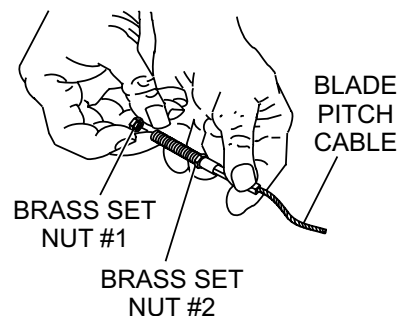

Figure 6. Blade Pitch Cable
2. Remove brass set nut #1 from the blade pitch cable end as shown in Figure 6.
3. Thread brass set nut #2 (Figure 6) towards the cable as far as possible.